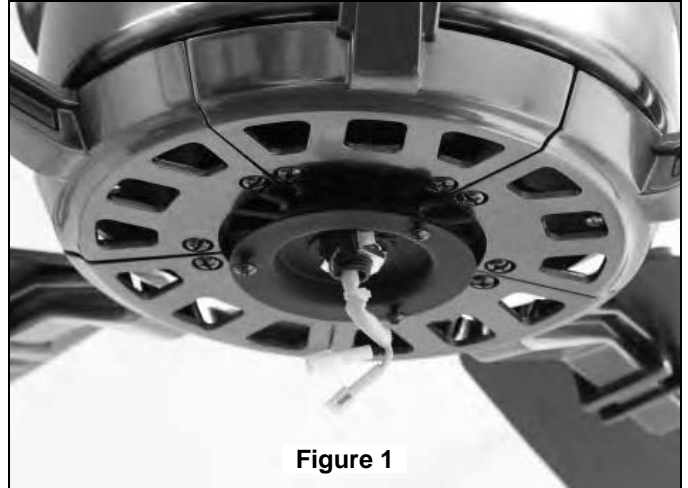

Figure 1
1. Operating & Using Hand-held Remote (Figure 1):
1. Remove and discard the (steel) motor “stops” by removing the five screws. (Figure 1)
1. Loosen two screws and remove one screw from support flange. (Figure 1).